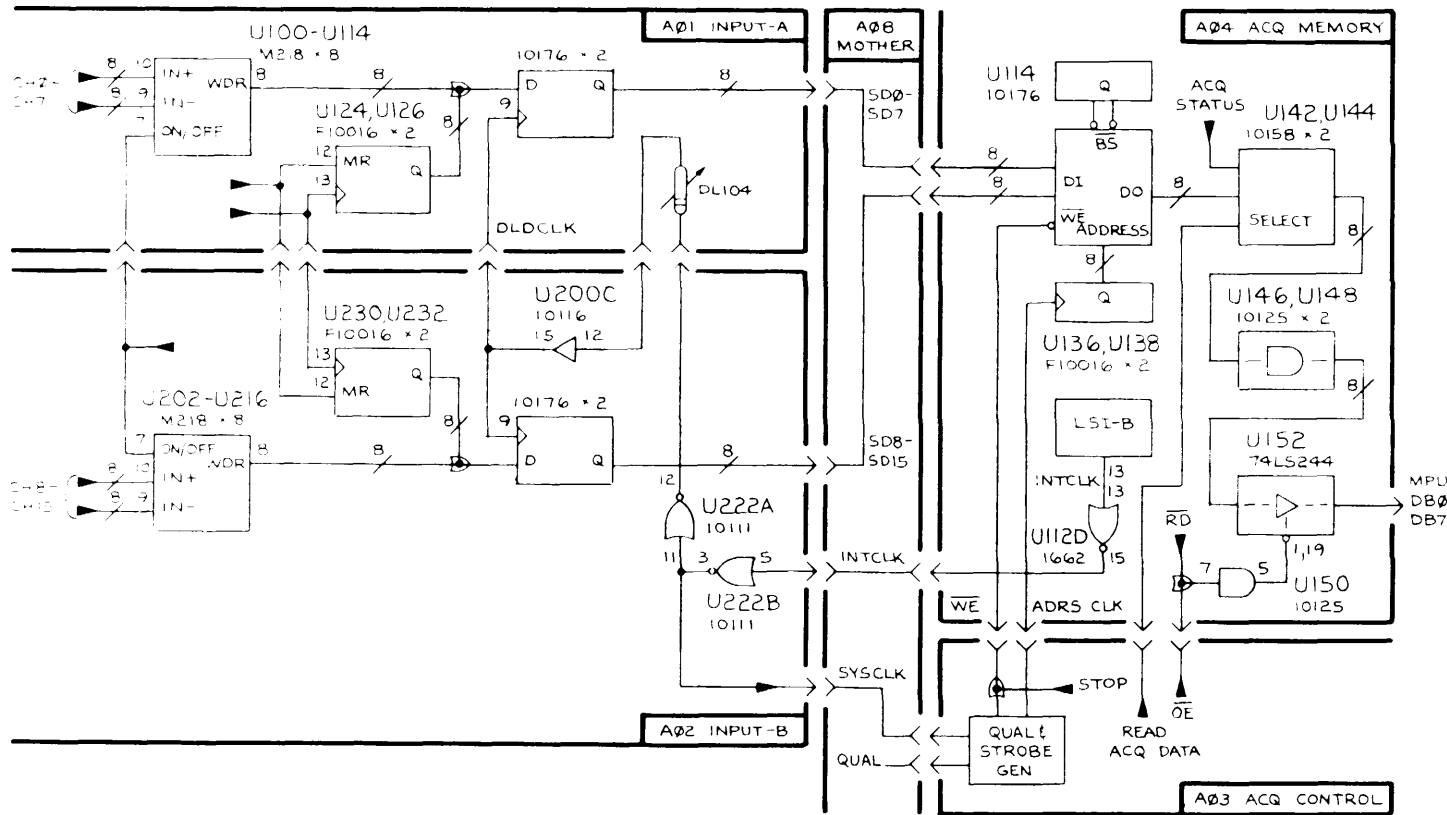

Figure 7-8. 318 ACQ memory test
**Description:** Refer to Figure 7-8. The test data for ACQ Memories U1 16 to U122 <8> (256-word X 4-bit RAM, HM10422) on the A04 ACQ Memory board are generated by U124 and U126 <2> (4-bit *binary* counter, F10016) on the A01 INPUT-A board, and U230 and U232 <3> (F10016) on the A02 INPUT-B board, instead of using the M218's actual data. The operation for generating this pseudo data is the same as the one used in the WR Test.